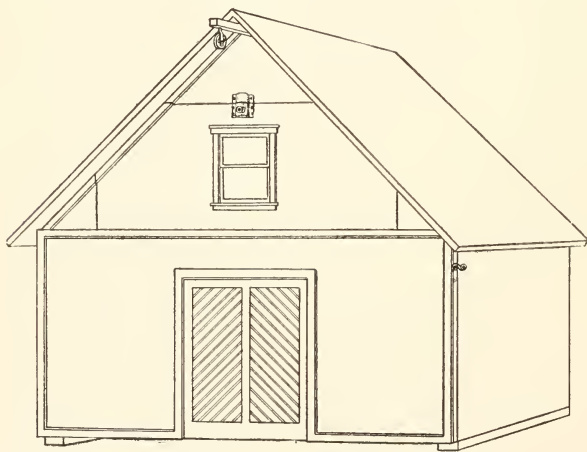

FIG. 238. — Exterior of Stable.
THE stable illustrated in Figs. 238 and 239 is designed in keeping with the doll-house in Chapter XIII. It is shown in the background of the photograph of this doll-
**Feed-Hoist** (see Fig. 238).
**A Drop-Front**, as shown in Figs. 238 and 239. This is made from the box-cover. Fasten the boards together with battens placed upon the inside, and hinge it to the bottom of the stable. Nail two cleats to the under side of the floor (see Fig. 238) to lift it off the ground just enough to allow the front to drop without springing its hinges.
**Represent a Stable Door** on the outside (see Fig. 238). This is done with paint and a fine brush. First paint a green panel in the center of the front, and then mark off a couple of panels within this space with black paint, and stripe them diagonally to represent beaded-boards.